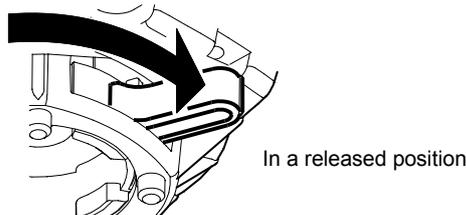

Figure 7 Lock Lever (Released)
- (2) Move the lock lever to the right end as shown in Figure 7.